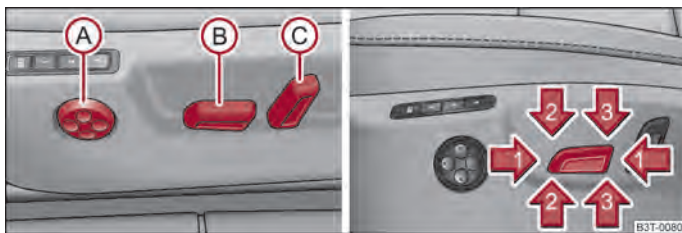

Fig. 57 Side view: Controls for adjusting the seat/seat setting switch
- Press the switch **B** ⇒ fig. 57 forwards or backwards in the direction of arrow **1**.